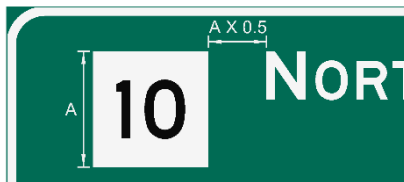

Figure A8
10. Horizontal spacing between a route shield and a cardinal word shall be equal to one-half the height of the shield. See Figure A8.